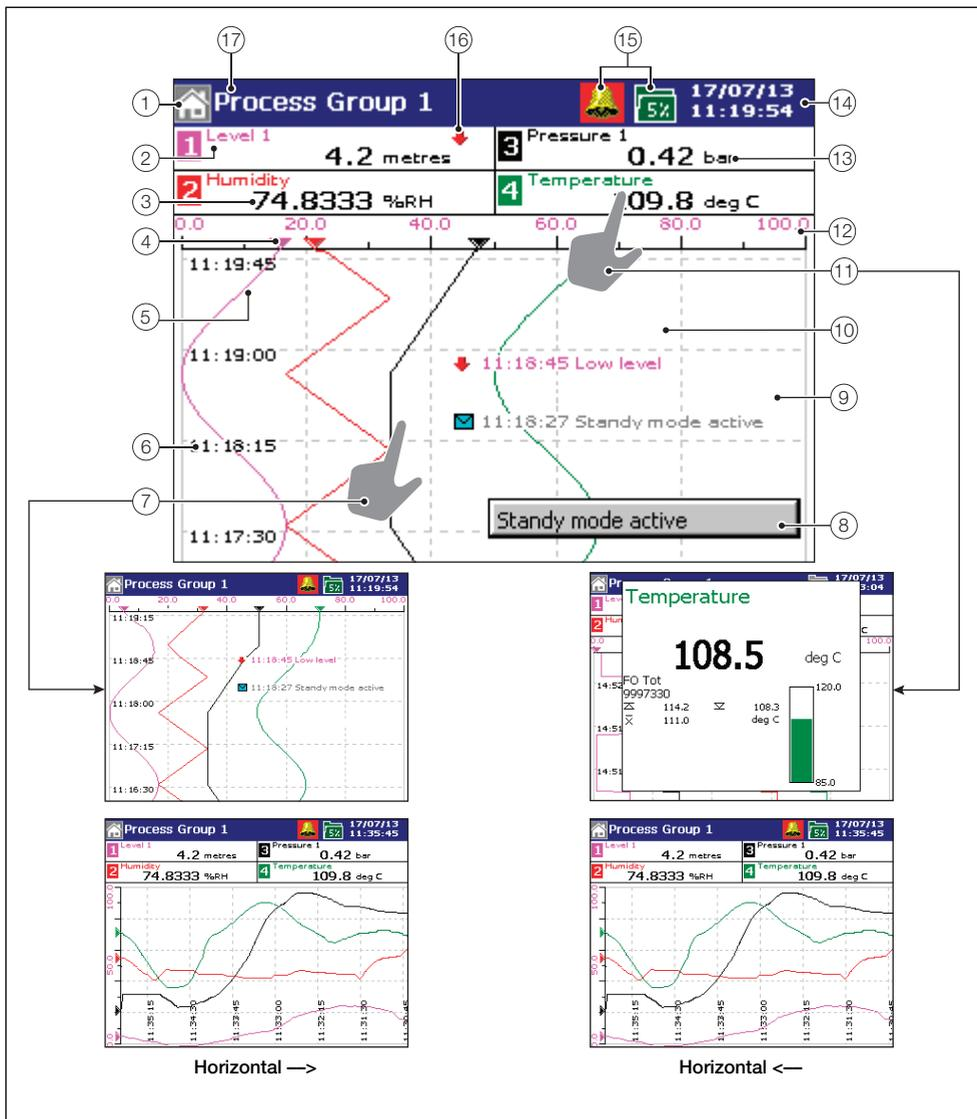

Fig. 5.5 Vertical and horizontal chart views
Key to Fig. 5.5:
If **any** alarm in **any** process group is active, the Global Alarm status icon () is displayed in the status bar – see item (15) in see Fig. 5.5, page 28. If **any** active alarm in **any** process group is unacknowledged, the icon is surrounded by a flashing border ()